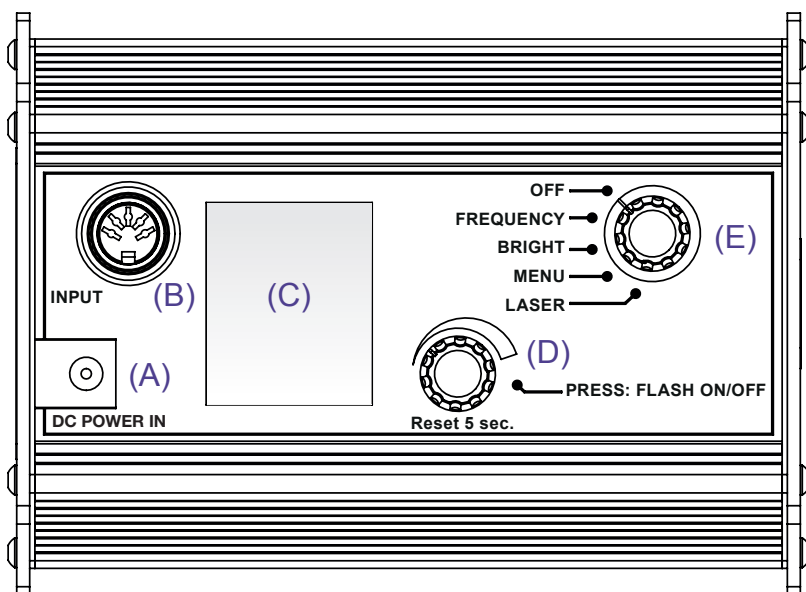

Fig.1 - Stroboscope LS-3-LED
3.1 Connectors (see Fig. 1)
1. Plug in External AC-DC Power to (A) DC POWER IN on rear of device (see Fig 1).
2. Direct the device at a moving object and switch it on. Turn the selector switch (E) one notch to the left to “**FREQUENCY.**”